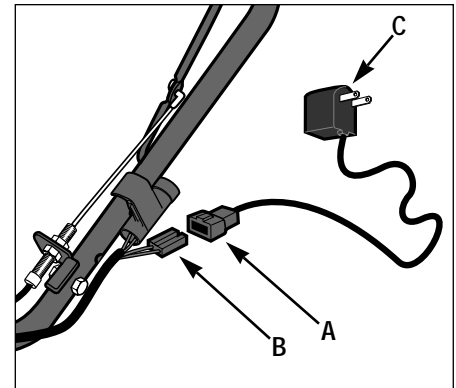

Figure 5-8: Use recharger supplied with unit.
1. Connect the small receptacle (A, Figure 5-8) on the battery charger cord to the wire harness plug (B) located near the keyswitch.
2. Plug the recharger box (C, Figure 5-8) into a grounded 120-Volt wall outlet.
3. Charge the battery for 24 hours. After charging, unplug the recharger box (C, Figure 5-8) from the wall outlet first, then disconnect the recharging line plugs (A and B, Figure 5-8).